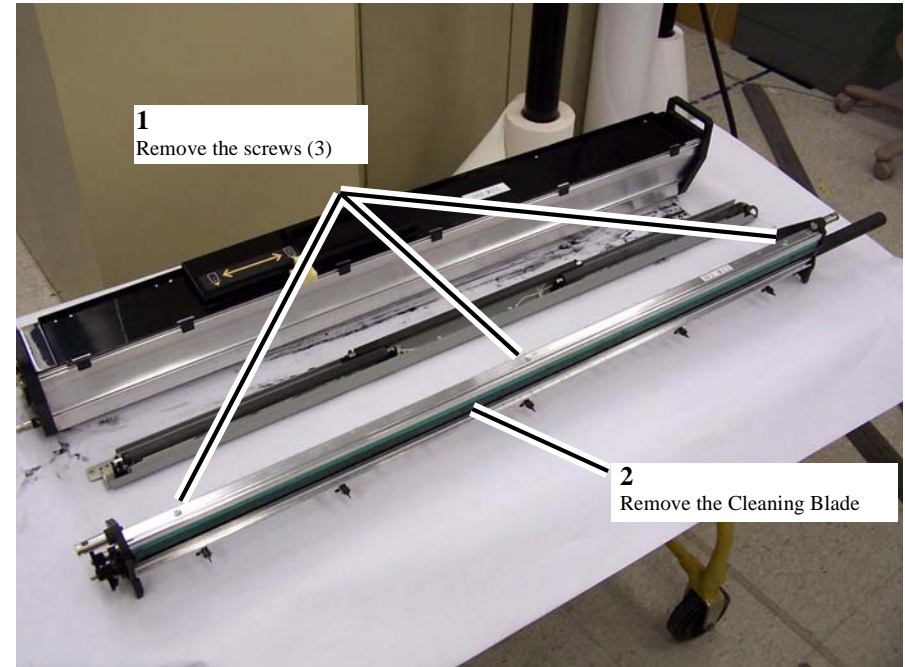

Figure 1 Removing the Cleaning Blade
4. Remove the Cleaning Blade (Figure 1).
- a. Remove the screws (3).